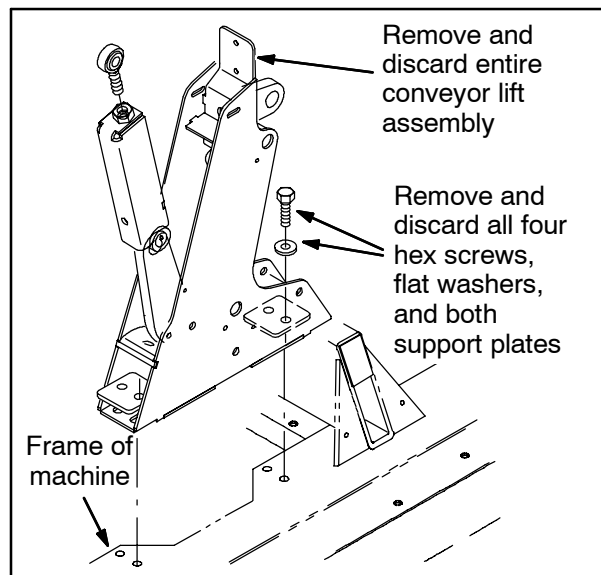

FIG. 6
4. Remove the four M12 hex nuts, flat washers, and both support plates securing the conveyor lift assembly to the frame of the machine. Discard the support plates and hardware. Refer to Fig. 6.
5. Remove the conveyor lift assembly from the machine. Discard the entire conveyor lift assembly. Refer to Fig. 6.